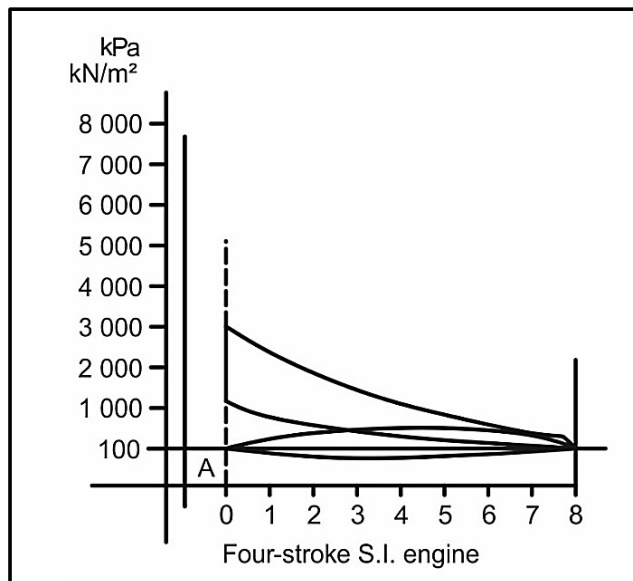

FIGURE 4.7
- D Fit a crankshaft with a shorter stroke (1)
4.7 Identify the diagram shown in FIGURE 4.7 below.